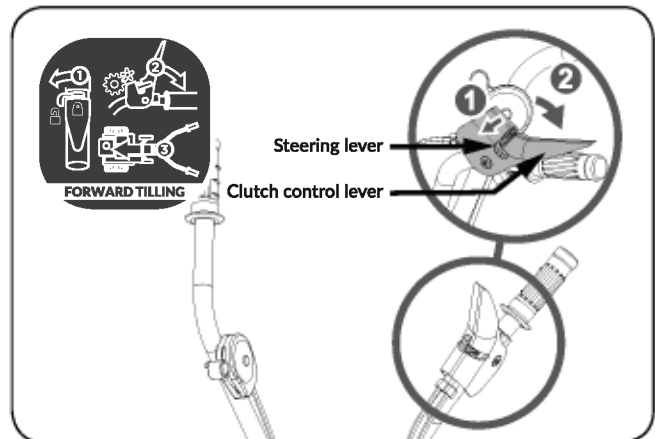

Figure 11b
- Move the steering lever to the left. (See **Figure 11b**, Illustration 1)
- Push down the clutch lever to engage the tines in a forward direction pulling the tiller forward. (See **Figure 11b**, Illustration 2)